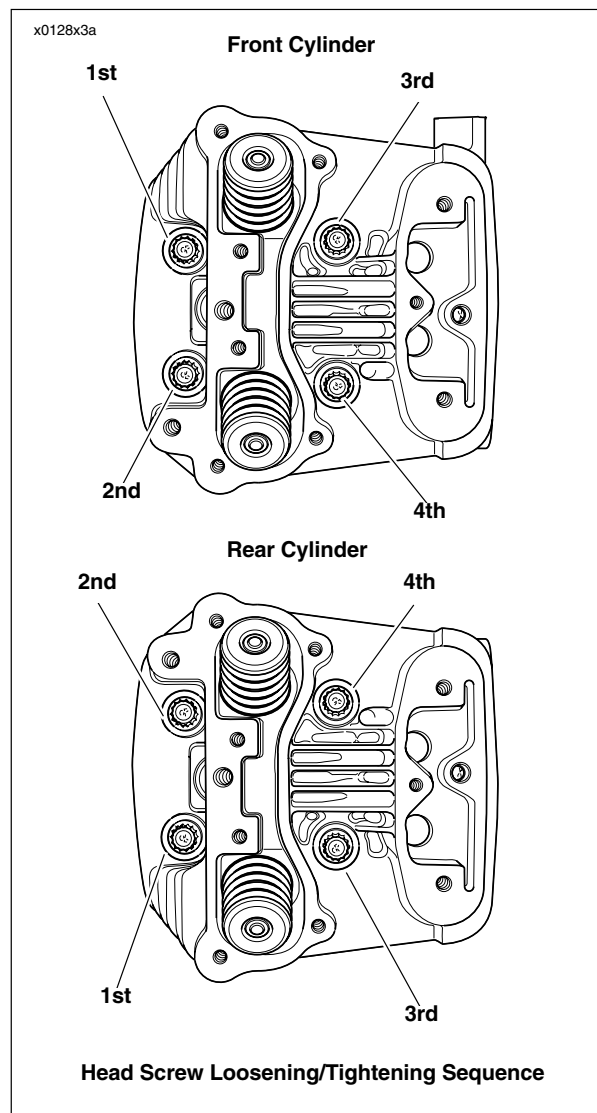

Figure 3-81. Head Screw Loosening/Tightening Sequence
7. See Figure 3-81. For each cylinder head, start with screw numbered one, as shown. In increasing numerical sequence (i.e. – 1, 2, 3 and 4):